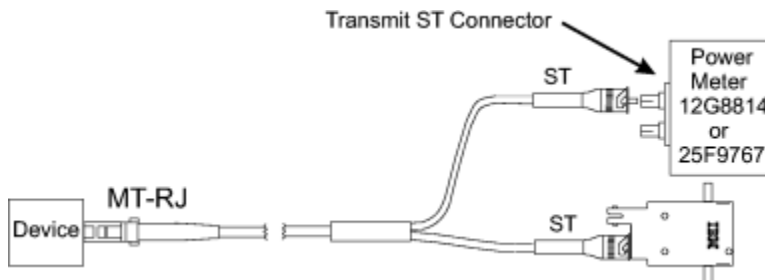

Figure 90. Measuring transmit-out power for an ETR link
Make sure the connectors are clean. Then assemble the test equipment (using Figure 90 on page 84) as follows:
5. Connect the transmit side ST connector to the power meter using Figure 90 on page 84.